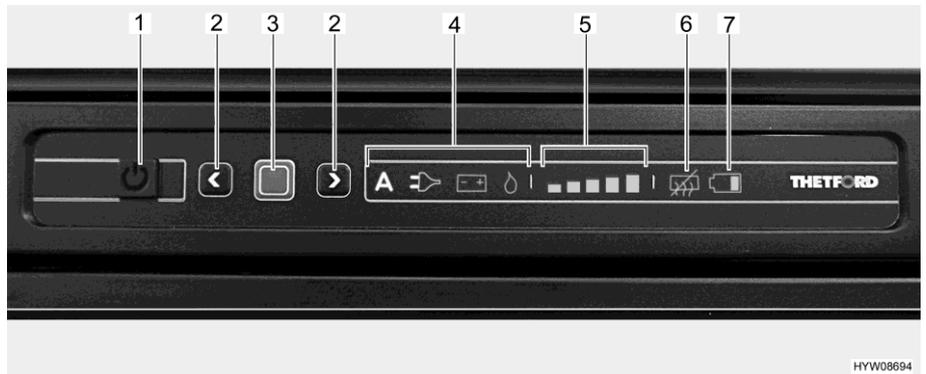

Fig. 186 LED operating panel (Thetford refrigerator)
- Press and hold the On/Off button (Fig. 186,1) for 1 second. The button lights up green. To save energy, after approximately 10 seconds the display is dimmed.
- Press confirmation button (Fig. 186,3). The operating mode previously selected is displayed.
- Press and hold the confirmation button (Fig. 186,3) for about 2 seconds. The operating mode symbols flash.
- Manual power selection: use the arrow keys (Fig. 186,2) to select the desired energy source.
- Automatic power selection (only version with automatic power selection): use the arrow keys (Fig. 186,2) to select the operating mode "A".
- Confirm your selection with the confirmation button (Fig. 186,3).
- Press confirmation button (Fig. 186,3) again. The cooling level indicator (Fig. 186,5) flashes.
- To change the setting, press the arrow keys (Fig. 186,2) until the desired setting is displayed.
- Press and hold the On/Off button (Fig. 186,1) for about 2 seconds. All lights go out. Refrigerator is switched off.
After switching it on, the refrigerator automatically selects the previously selected thermostat position. This position can be adjusted manually by using the arrow keys (Fig. 186,2). It takes a few hours till the refrigerator reaches its normal operating temperature. When changing over to another operating mode, the thermostat setting is kept.